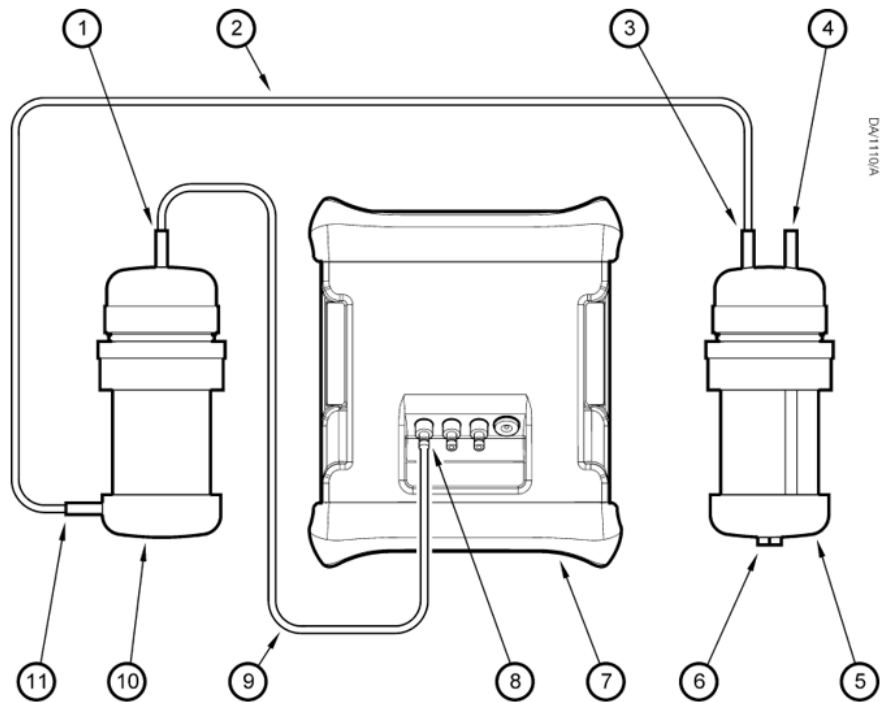

Figure 41: Schematic of sample conditioning kit connections
You must calibrate the 5100 i.s. with the sample conditioning kit as described in Section 6.2, but you must connect the calibration gas supply to the sample gas inlet on the sample conditioning kit (Figure 41, item 4).
Refer to the schematic of the connections shown in Figure 41. When you want to sample gases:
Refer to Figure 41. During use, liquid entrained in the sampled gases will be condensed in the catchpot (5). When necessary (that is, when liquid is visible in the transparent body of the catchpot):
1. Disconnect the catchpot-to-drier gas pipe (2) from the catchpot outlet (3), then undo the press stud, lift up the pocket cover and remove the catchpot from the carry case pocket.
5. Refit the catchpot in the carry case pocket and secure the pocket cover with the press stud, then reconnect the catchpot-to-drier gas pipe (2) to the catchpot outlet (3).
1. Refer to Figure 41. Disconnect the catchpot-to drier gas pipe (2) from the drier inlet (11), and disconnect the drier outlet pipe (9) from the drier outlet (1).
6. Refit the drier (8) back in the carry case pocket and secure the pocket cover (10) with the press stud (9).
7. Refer to Figure 41. Reconnect the catchpot-to-drier gas pipe (2) to the drier inlet (11), and reconnect the drier outlet pipe (9) to the drier outlet (1).
3. Reconnect the catchpot-to-drier gas pipe (2) to the drier inlet (11), and reconnect the drier outlet pipe (9) to the drier outlet (1).